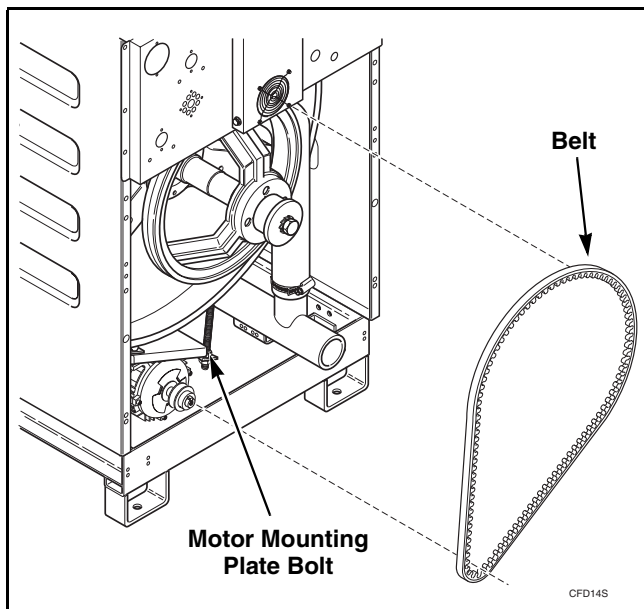

Figure 10
Refer to *Figure 10*.
- (1) Using a tension gauge, check the drive belt tension. Belt tension should be between 70 and 90 pounds ( $\pm 5$  pounds). Set the initial belt tension toward the high end of the range.
- (2) To adjust the drive belt tension, loosen or tighten the nuts on the motor mounting plate bolt. Refer to *Figure 10*.